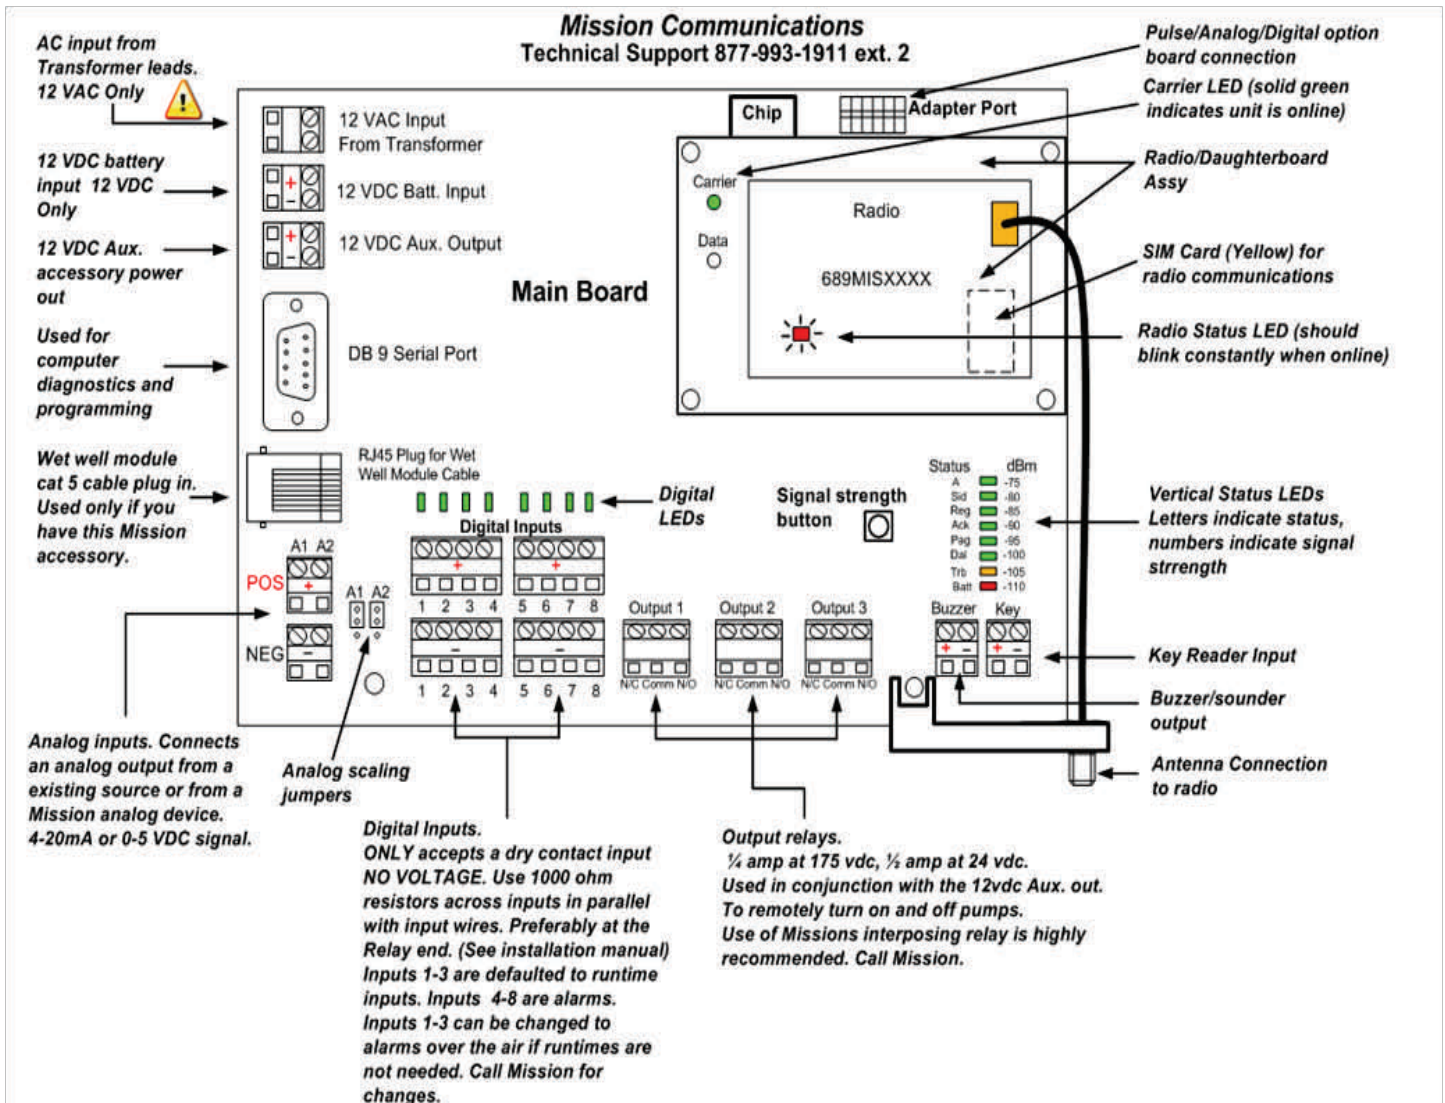
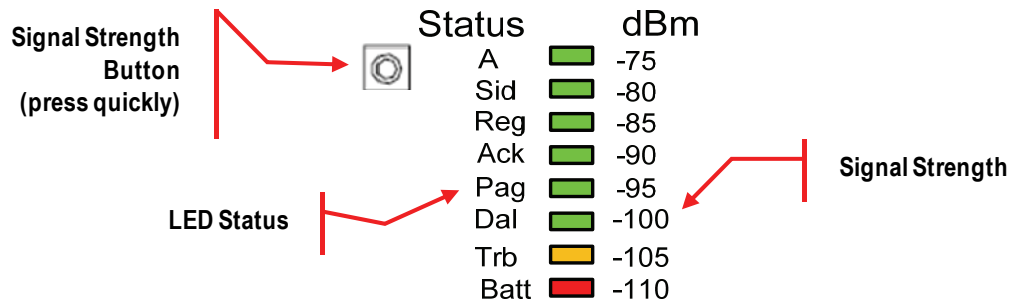

Figure 1
Figure 2
**!** *Refer to Figure 1 for the various LEDs and inputs during installation.*
2. Remove the antenna cable and whip antenna from its package and screw the connector into the RTU's radio connection. (See figure 2). DO NOT OVER TIGHTEN
4. Power up the RTU with the 12 VDC battery, (See figure 2). Connect the negative (black) lead to the battery first and then connect the positive (red) lead. You should then see the vertical status LEDs on the lower right corner of the main board light up in an up and down pattern and then the horizontal digital LEDs above the digital inputs will scroll side to side, then all go out. (See figure 1 for LEDs).
2. Once the RTU is mounted you can connect the antenna connector to the radio connection on the main board. (See figure 1 and 2 for antenna connection to radio).
**8. RUNTIME AND ALARM WIRING:** You can connect your runtime pumps and alarm wires to the digital inputs on the Mission main board. (See figure 1 and 2 for digital inputs) Review the Typical wiring for monitoring a standard trouble relay insert in the back of this manual.
**Power the MISSION RTU with its 12 VDC battery only. Do Not Power the Station Yet.** Black lead first, then Red (12 VDC). Watch the LEDs to make sure it powers up as previously described. You should then see the vertical status LEDs on the lower right corner of the main board light up in an up and down pattern and then the horizontal digital LEDs above the digital inputs will scroll side to side, then all go out. (See figure 2 for LEDs). Allow the unit adequate time to perform its power-up sequence and synchronization to the network. 5 to 10 minutes is generally adequate for the process to successfully conclude.